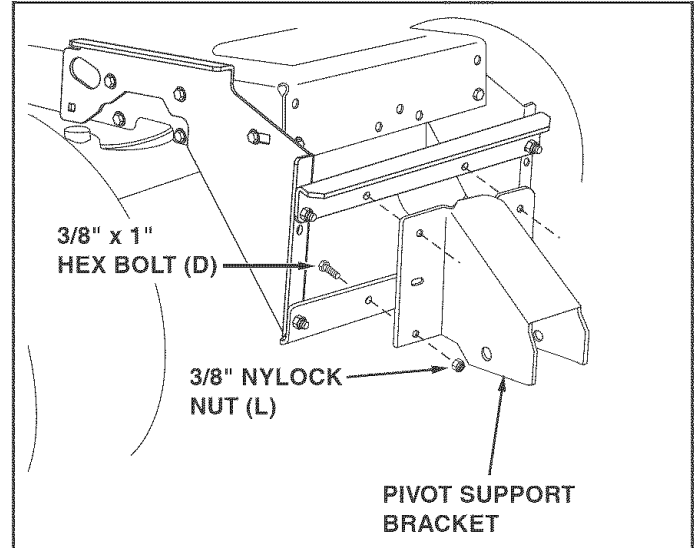

FIGURE 10
STEP 10: (SEE FIGURE 10)
- Assemble the pivot support bracket to the angle support brackets using four 3/8" x 1" hex bolts (D) and four 3/8" nylock nuts (L). **Do not tighten yet.**
- Assemble a 3/8" x 1-1/4" carriage bolt (E) through the square hole in the cable mount bracket and through the square hole in the angle lock bars. (The carriage bolts should face in opposite directions.) Using pliers hold the cable mount bracket in position, angling down towards the L.H. hole in the channel as shown in figure 10. Secure with a 3/8" nylock nut (L). **Tighten**. Refer to the figure for the correct angle for the cable mount bracket.